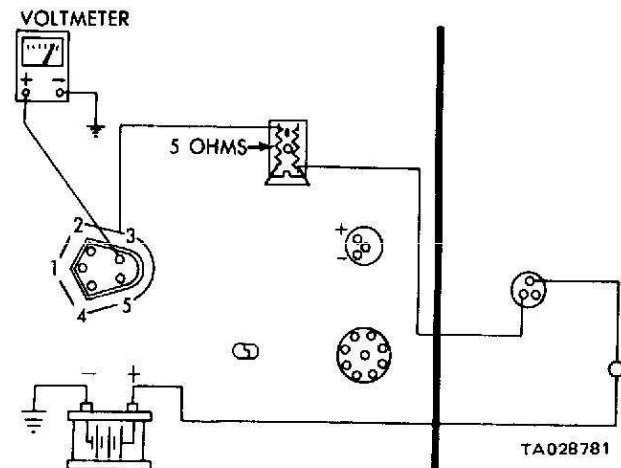

Figure 2-29. Testing Terminal Number Three.
(6) With the ignition switch ON, test for voltage between wiring-harness connector terminal three and ground (figure 2-29).